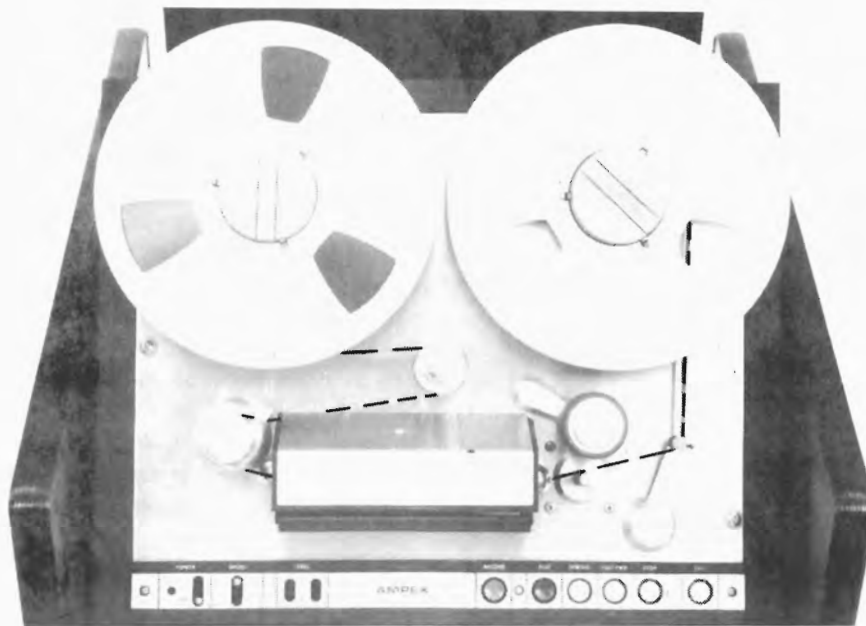

Figure 3-1. Tape Threading Diagram
4. Thread tape as shown in Figure 3-1. To facilitate tape threading, turn on recorder/reproducer and depress EDIT pushbutton, which reduces turntable braking force so the reels can be easily turned by hand.